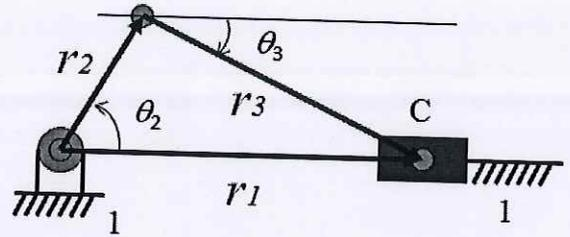

Figure 3 Slider-crank
3. Figure 3 show a crank-slider. For the mechanism, if  $r_2=6\text{cm}$  ,  $r_3=4\text{cm}$  , and  $\theta_2=60^\circ$ . Using instant center method, find the linear velocity of slider 4 ( $V_C$ ). (20%)